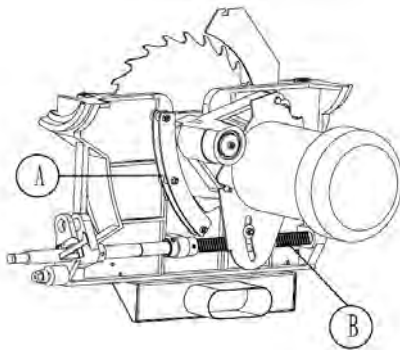

Fig. 24: Important lubrication points
Step 3: Extract the machine from sawdust and sawdust and clean it with a dry cloth and / or compressed air (wear protective goggles!). In particular, the guide rails B (Fig. 24) and the sliding carrier A (Fig. 24) must be kept clean.
Step 4: Lubricate all moving parts, especially A, B (Fig. 24) regularly (weekly). Protect all belts and pulleys against oiling!